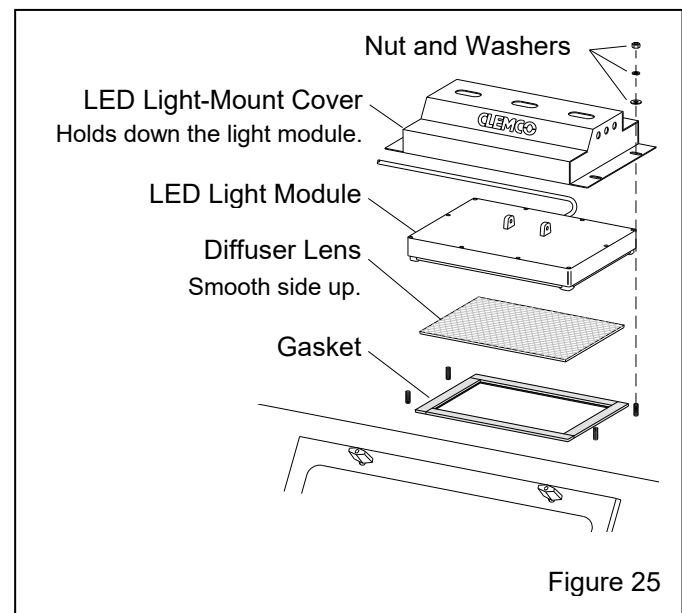

Figure 25
7.7 LED Light Assembly – Figure 25
7.7.1.2 Remove the four nuts and washers that attach the light-mount cover to the cabinet and remove the cover, as shown in Figure 25.
7.7.2.3 Lay a section of strip gasket along the edge of the opening and cut to length, allowing 3/4" overlap on each end. Peel a short section of adhesive backing and adhere the strip gasket to the top edge of the light opening, as shown in Figure 25. Press the gasket to bond. Repeat the process for each side, compressing the ends to seal.